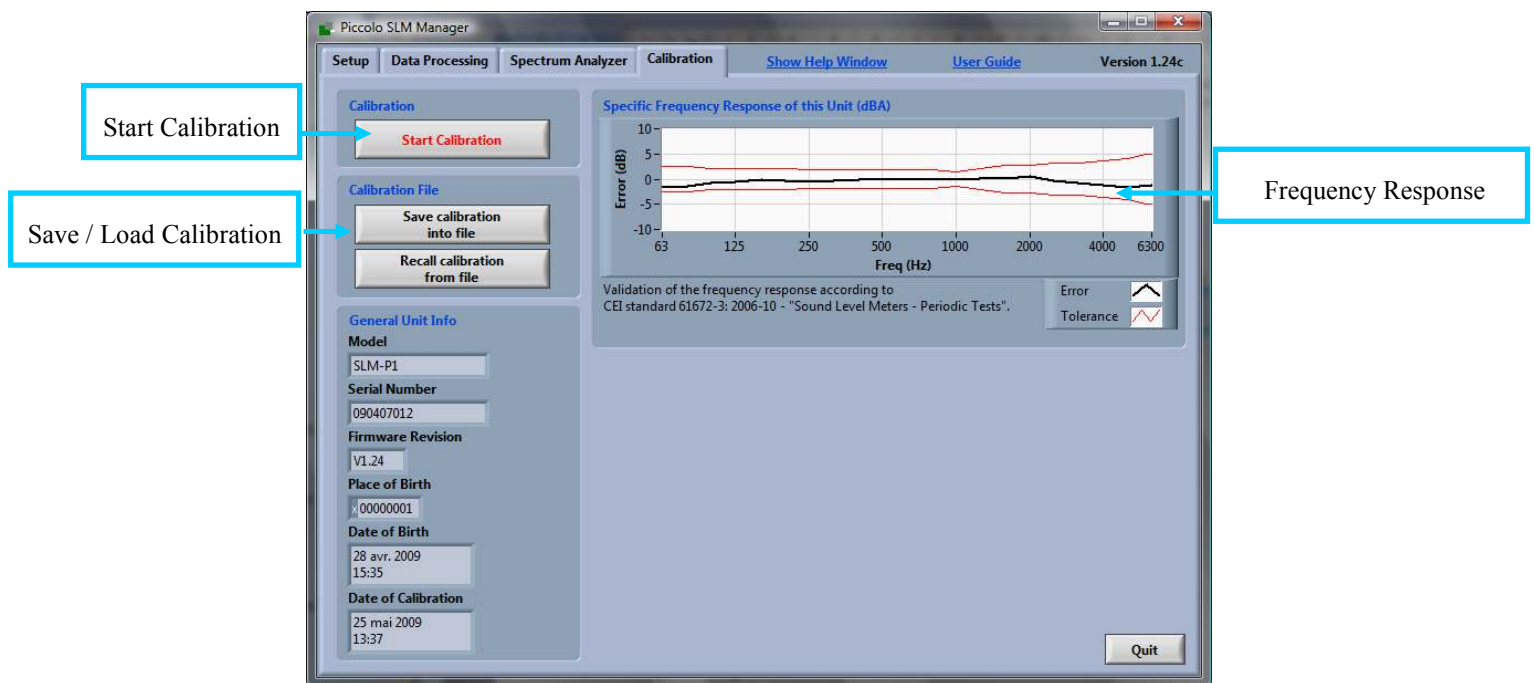

Figure 6: Calibration menu
2. Insert the Piccolo into the acoustical calibrator and click on the *Calibration* tab. Select *Start Calibration*. Follow the on-screen steps to calibrate the Piccolo SLM microphone (see figure 6)